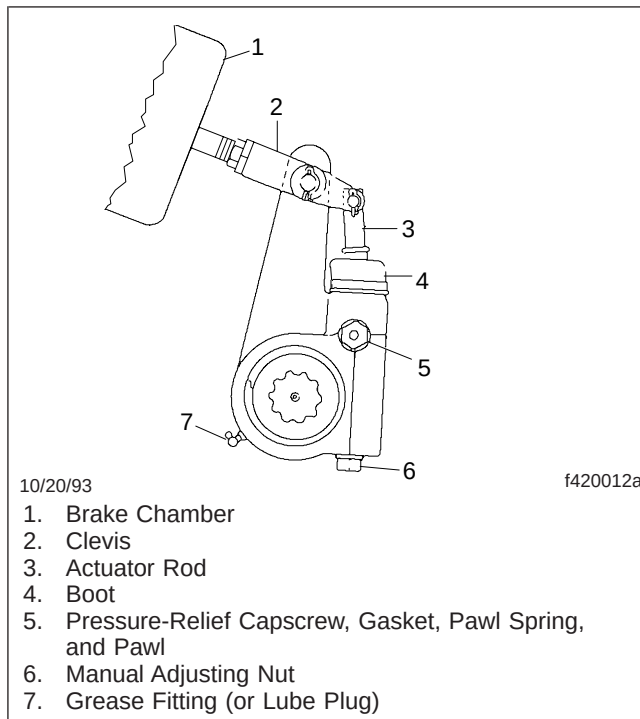
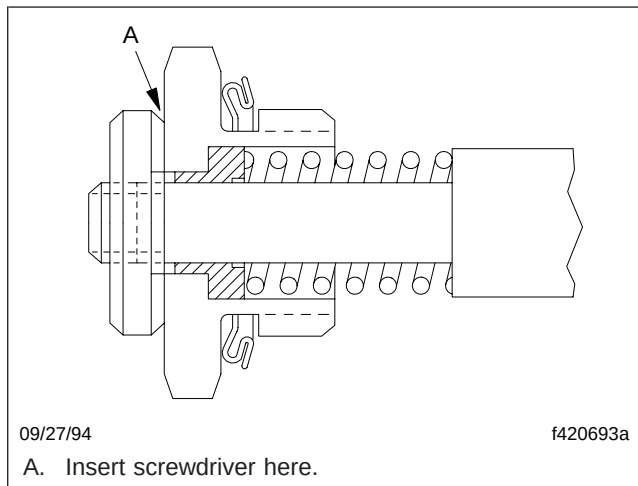

Fig. 6, Meritor Automatic Slack Adjuster
Fig. 8, Pull-Pawl Assembly (sectional view)
1. Check the boot for cuts, tears, etc., and replace it if necessary. See Fig. 6.
- 3.3 If the free-stroke is incorrect, remove the pressure-relief capscrew, gasket, pawl spring, and pawl (Fig. 6, Ref. 5) from the slack adjuster housing. If equipped with a pull-pawl assembly (Fig. 8), carefully insert a screwdriver and raise the relief cap about 1/8 inch (3.2 mm).
- 4.3 The brake chamber stroke must be less than the measurements shown in Table 4. If the brake chamber stroke is incorrect, remove the pressure-relief capscrew, gasket, pawl spring, and pawl (Fig. 6, Ref. 5) from the slack adjuster housing. If equipped with a pull-pawl assembly (Fig. 8), carefully insert a screwdriver and raise the relief cap about 1/8 inch (3.2 mm).
1. Remove the pressure-relief capscrew, gasket, pawl spring, and pawl. See Fig. 6, Ref. 5.